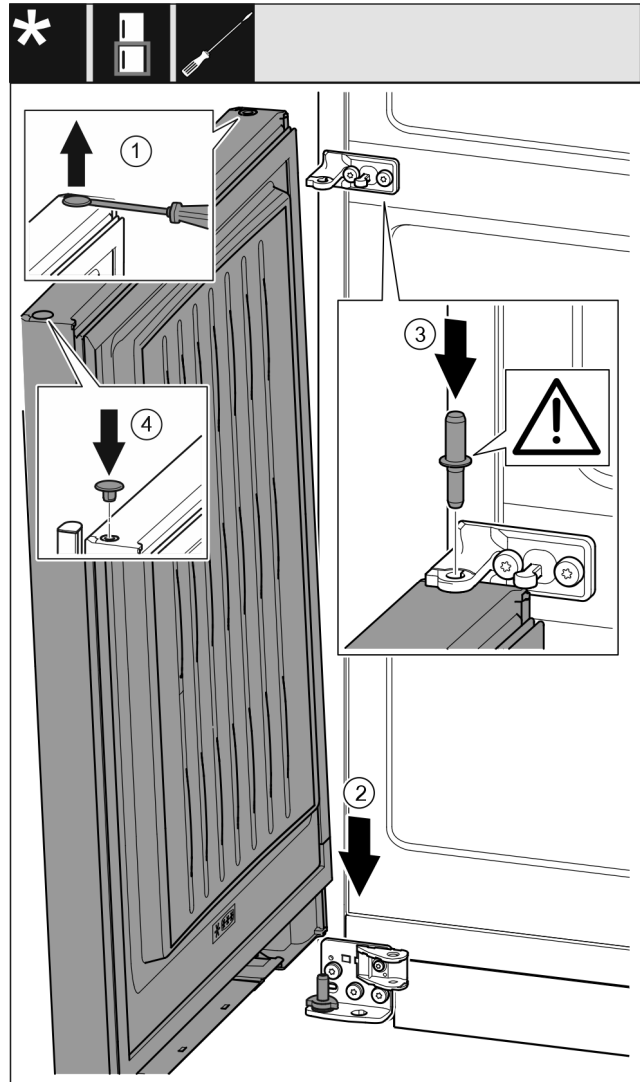

Fig. 42
- ▶ Use a slotted screwdriver to lift the plug Fig. 42 (1) carefully and pull it out.
- ▶ Lower the door Fig. 42 (2) onto the bottom bearing bolt.
- ▶ Insert the centre bearing bolt Fig. 42 (3) through the centre bearing block in the lower door. Ensure that the latching cam is pointing towards the rear.
- ▶ Re-insert the plug Fig. 42 (4) on the other door side.